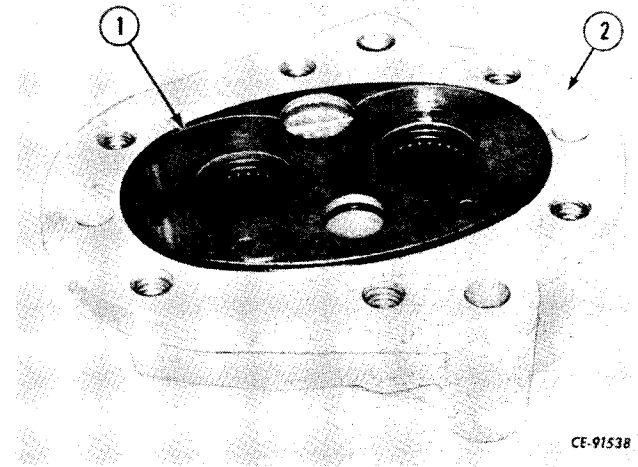

Figure 3-52
Remove the wear plate (1, Fig. 3-52) from the body (2).
Install the wear plate (1, Fig. 3-52) in the body (2).